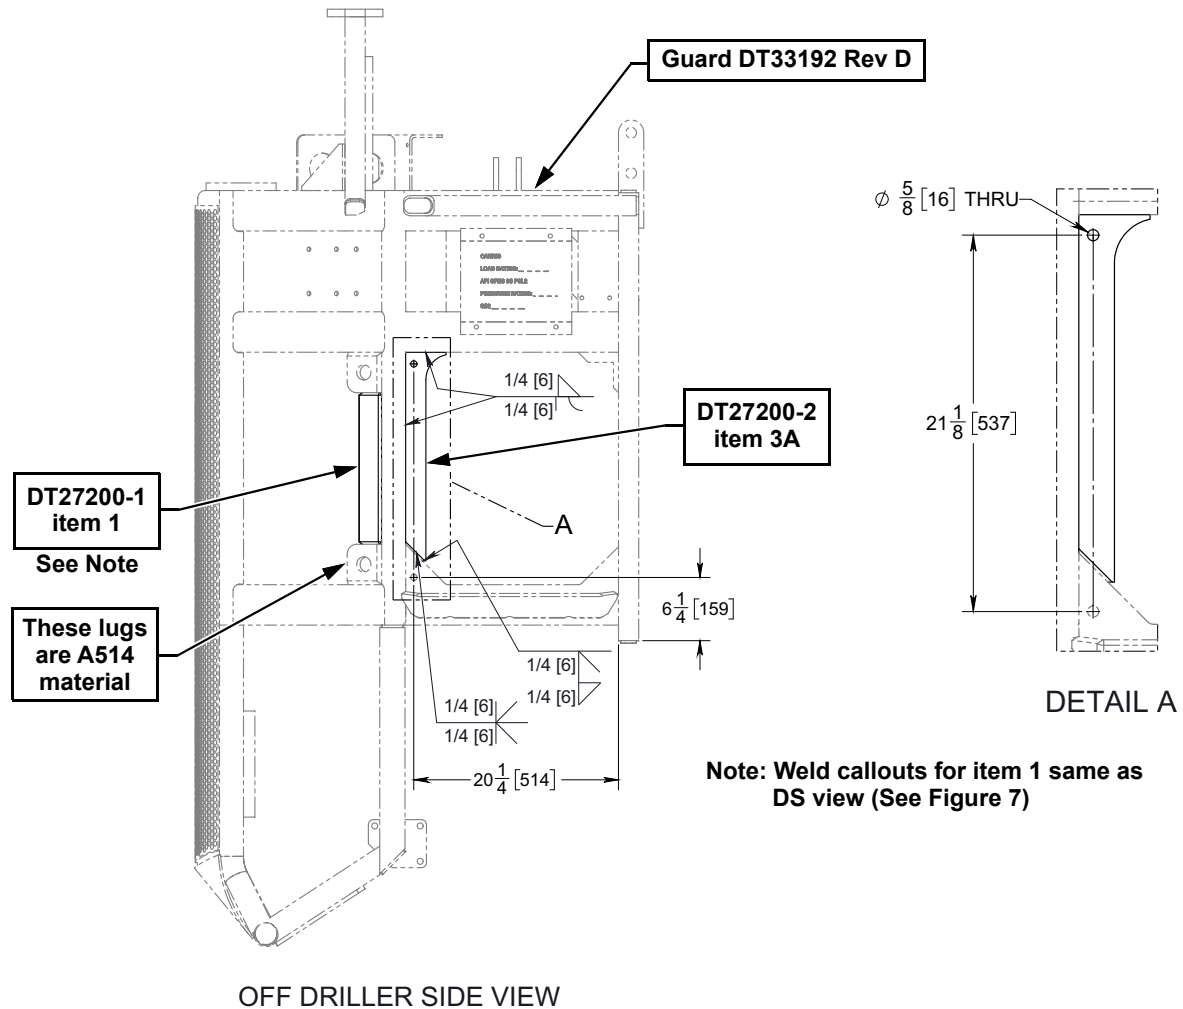

Figure 9: Plates installed on guard (ODS)
2. Replace with plate P/N: DT27200-2 (item 3A) as shown in Figure 9. **Note:** Outside of items 1 and 3A are flush with outside of plate/HSS above and below them.
3. Drill 5/8" hole as shown in Detail A in Figure 9.